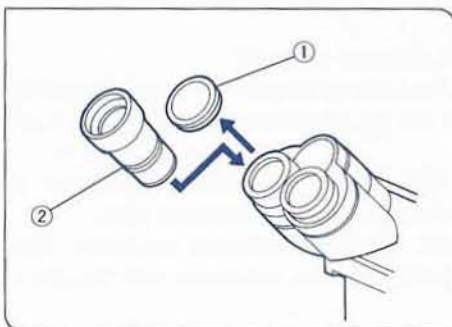

Fig. 12
## 9 Mount the Eyepieces (Figs. 12,13)
1. Remove the eyepiece cap ①.
2. Insert the eyepieces ② into the eyepiece sleeves as far as they will go. (Fig. 12)